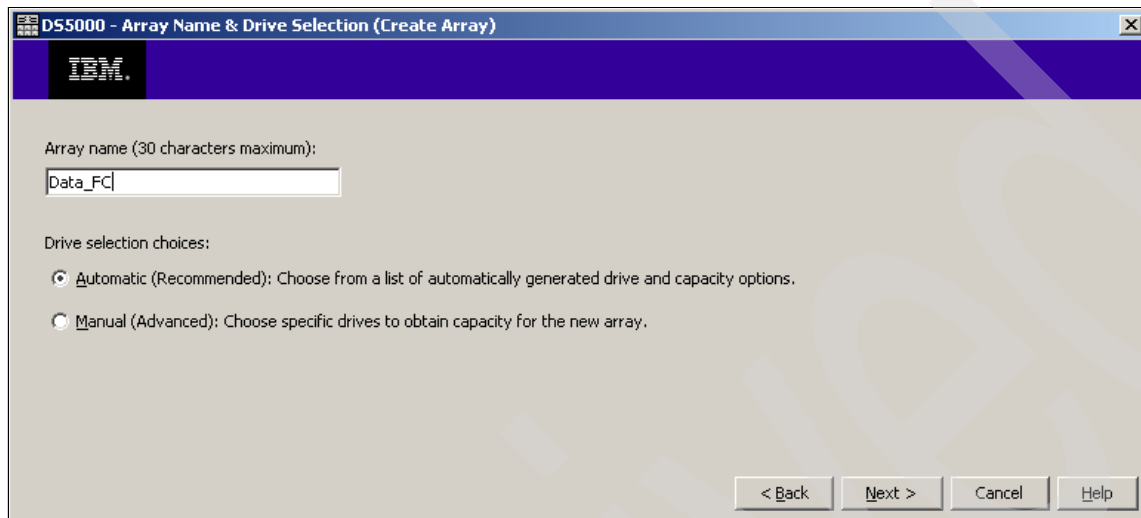

Figure 4-58 Create array and assign a name and mode
2. In the Create Array window, type a meaningful array name that describes your set of disks, and then select either Automatic mode or Manual mode. Automatic mode is the default option, as shown in Figure 4-58. By selecting the Automatic option, the Storage Manager software selects a combination of available drives to optimize performance and availability, and attempts to select physical drives from different enclosures in order to provide enclosure protection whenever possible. Click **Next**.